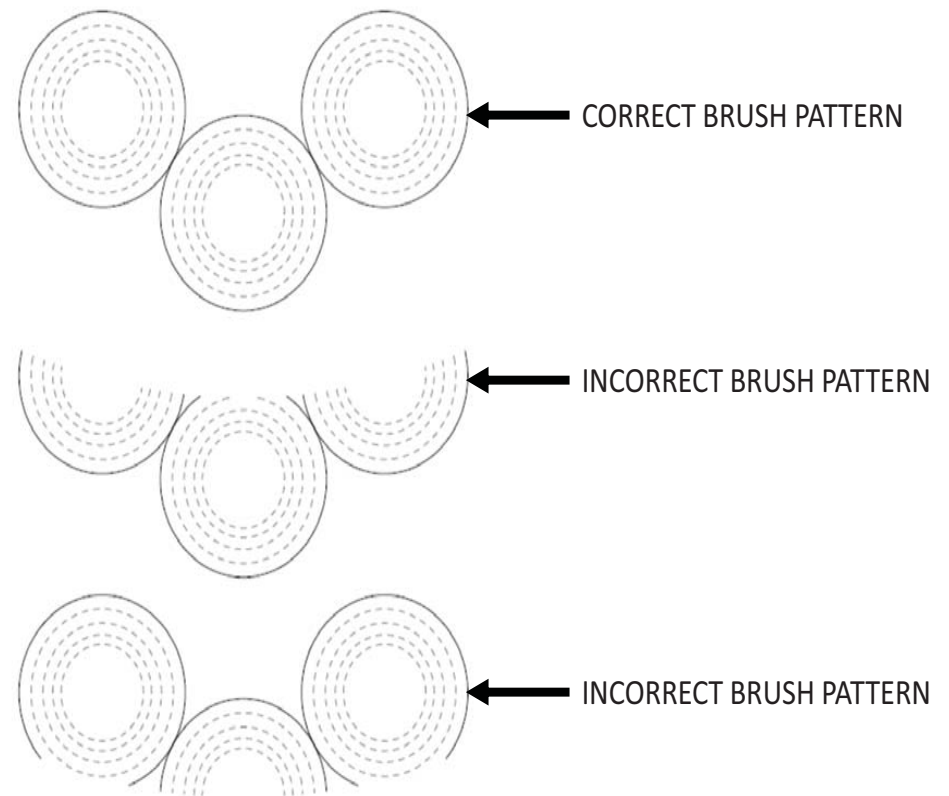

Fig. 7: Scrub Brush pattern
7. Check the width and shape of the brush patterns on the floor. (See Fig. 7)